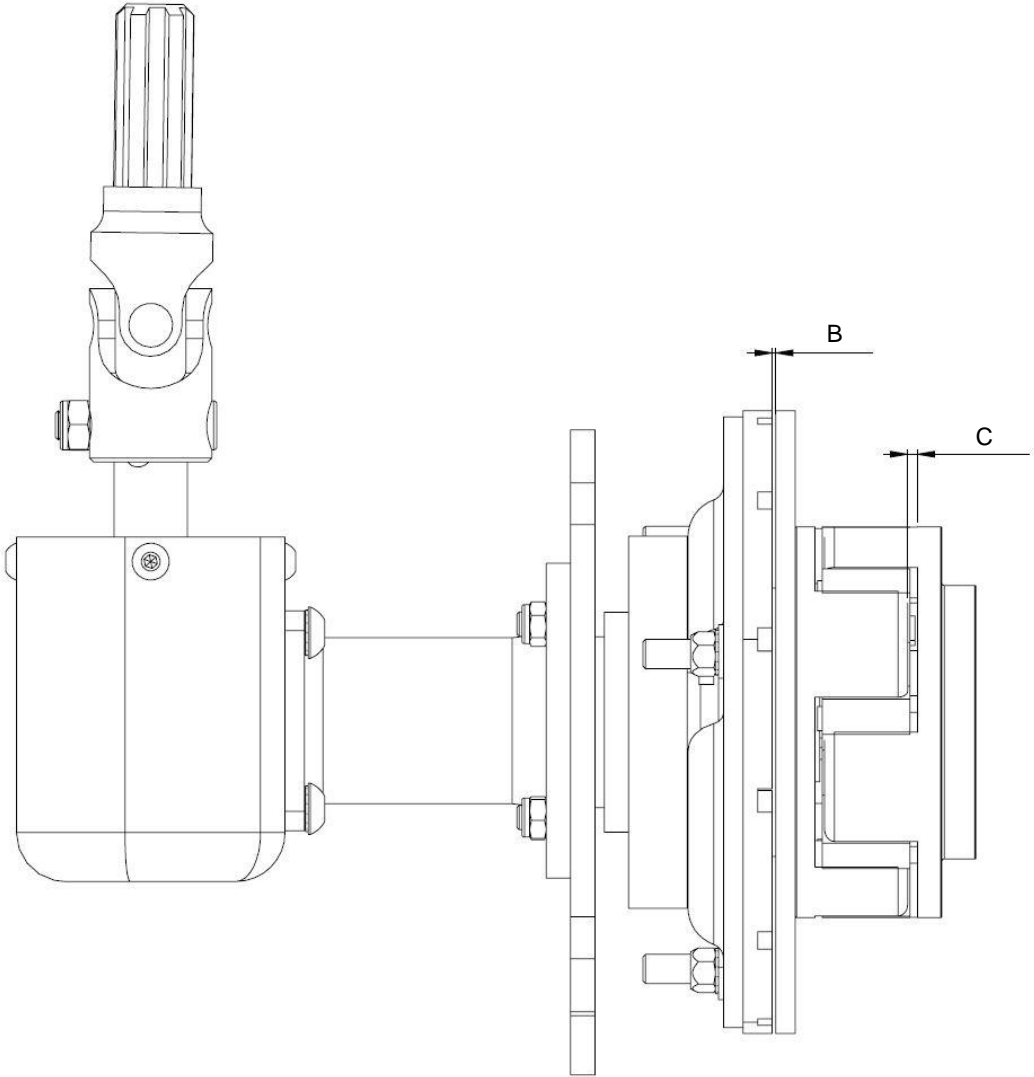

Fig. 1 - Pneumatic Clutch III
- 1 Measure clearance (Fig. 1 / B) with feeler gauge. Clearance between clutch lining and clutch plate has to be 1.0 – 1.5 mm.
- 2 Measure clearance (Fig. 1 / C) with feeler gauge. Clearance between inner drive star disc (engine side) and outer drive star claws (clutch side) has to be 1.0 – 1.5 mm.